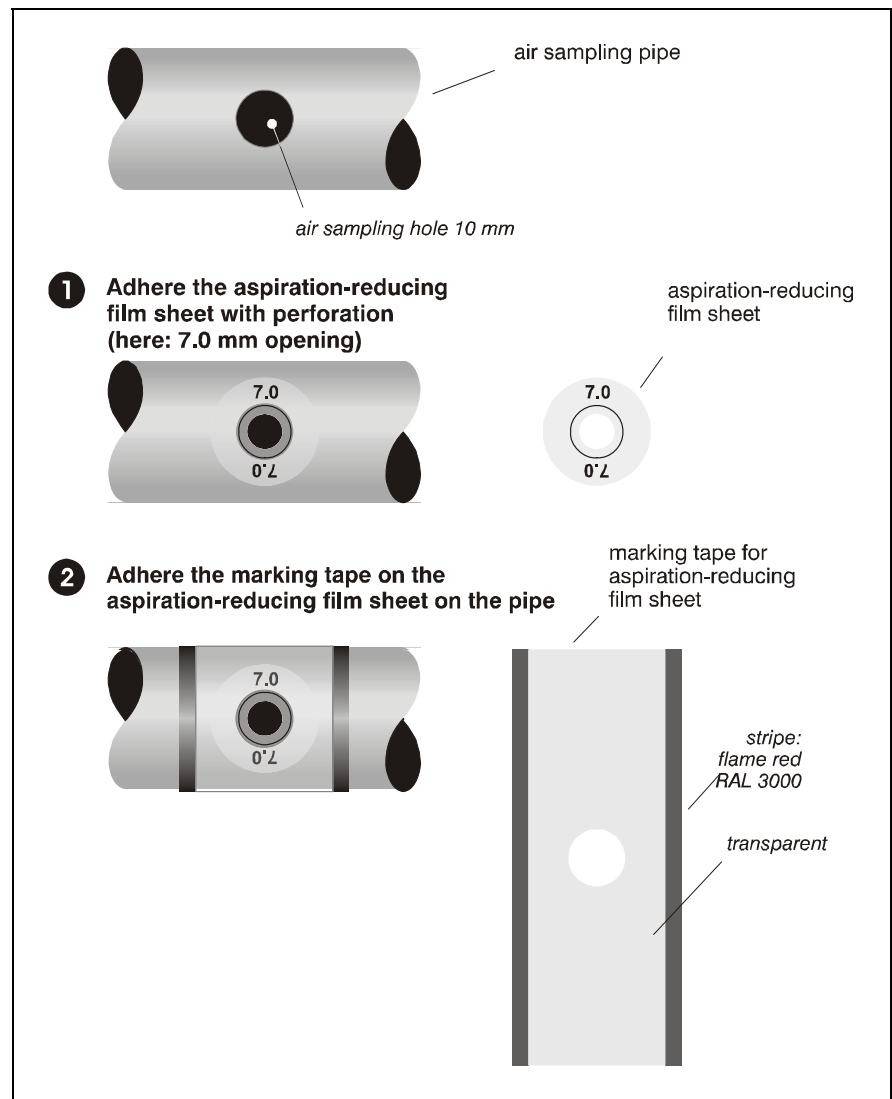

Fig. 6.3: Attaching the aspiration-reducing film sheet
5. Stick the aspiration-reducing film sheet over the bore hole (see fig. 6.3, ①).